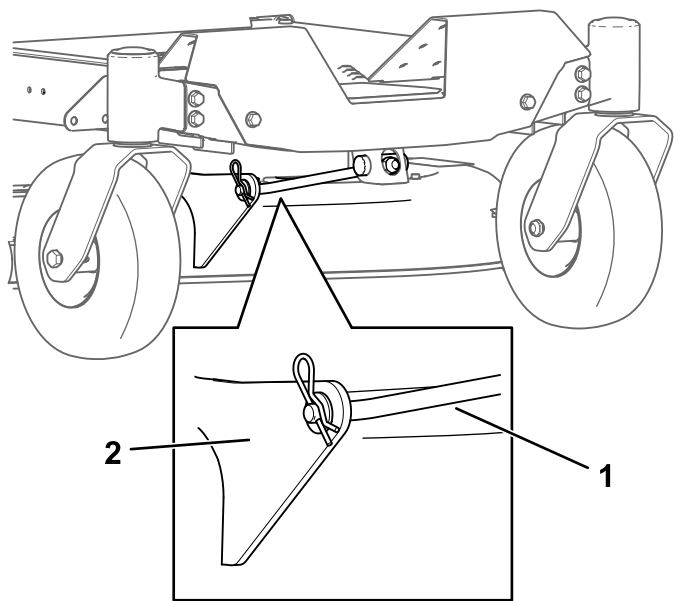

Figure 73
4. Remove the hairpin cotter from the front support rod, and remove the rod from the deck bracket (Figure 73).
8. Attach the front support rod to the mower deck with the clevis pin and hairpin cotter (Figure 73).